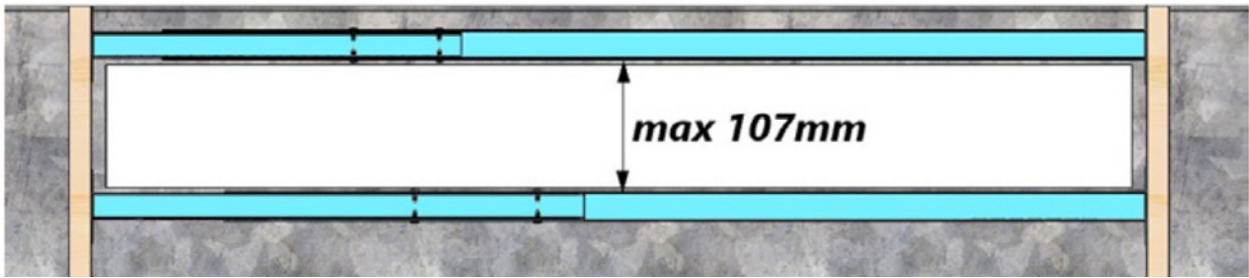
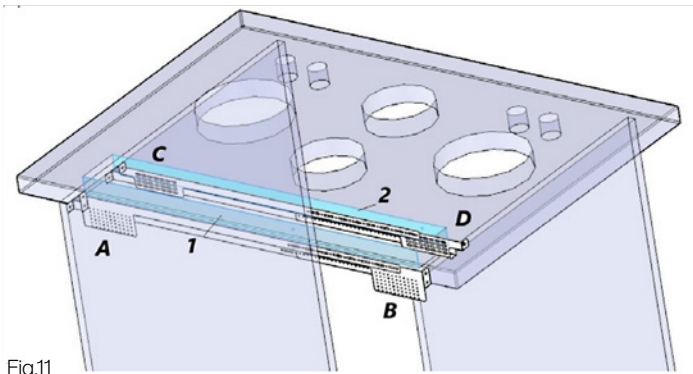
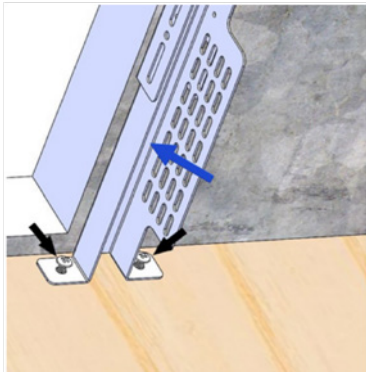

Fig.10
Fig.11
Fig.12
6. Line up the edges of the of the two sections of frame with the benchtop cutout and secure in place as per below - see Fig.10, Fig.11 & Fig.12. *Note: The screws put in place in (Fig.9) cannot sit inside the width of the benchtop cutout as they will obstruct the downdraft body when lowered into place.*
7. These brackets are fixed in between the horizontal length brackets and are put into position by inserting one at either end ensuring that the slotted holes and the round holes correspond with the horizontal bracket allowances (Fig12). Slotted holes of parts E & F will be at the rear side (furthest from cooktop) and the round holes to the front side (nearest to cooktop) (Fig.15).